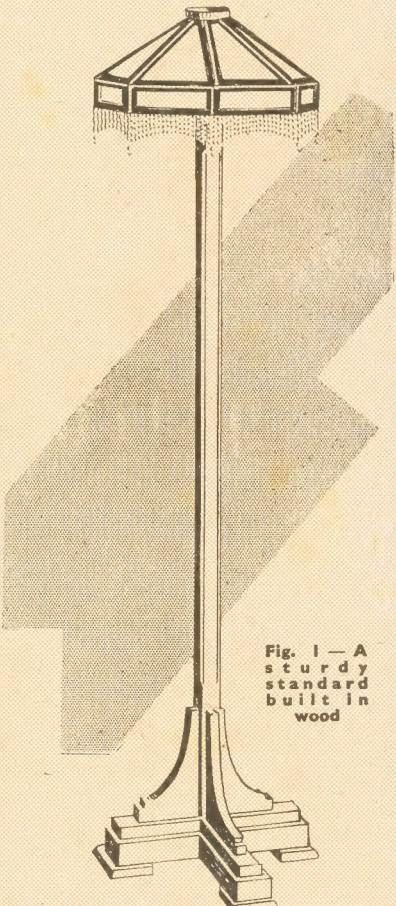

Fig. 1 — A sturdy standard built-in wood
**T**HE graceful looking standard lamp shown in our illustration at Fig. 1, would be equally as useful alongside the piano as at the back of the arm chair. Such a lamp as this is excellent as an aid for reading when the main lamp in the room is not needed. It is, too, very restful for the eyes, the light being concentrated on the work in hand whether it be music or book reading.